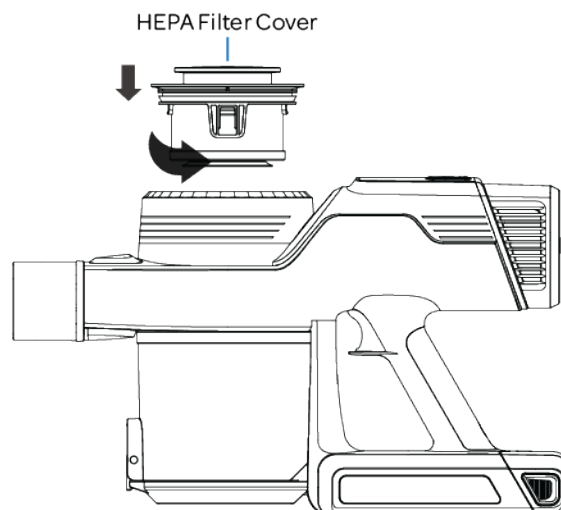

Figure 11
6. Insert the HEPA Filter into the Dust Bin HEPA Filter Cover and turn to the right to lock and secure in place. (Figure 11)
7. Place the Dust Bin HEPA Filter Cover back onto the Main Band secure in place (Figure 11)